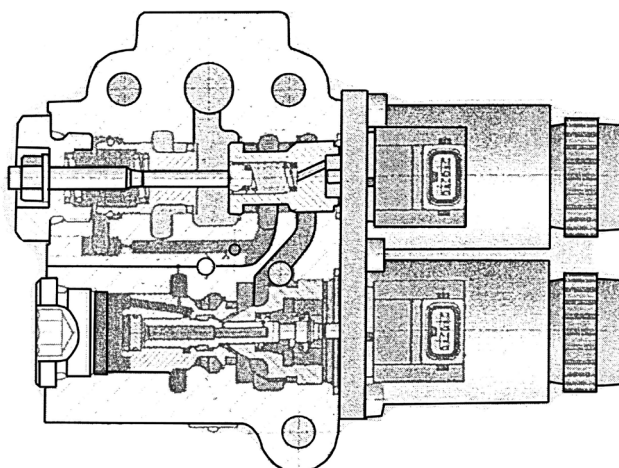
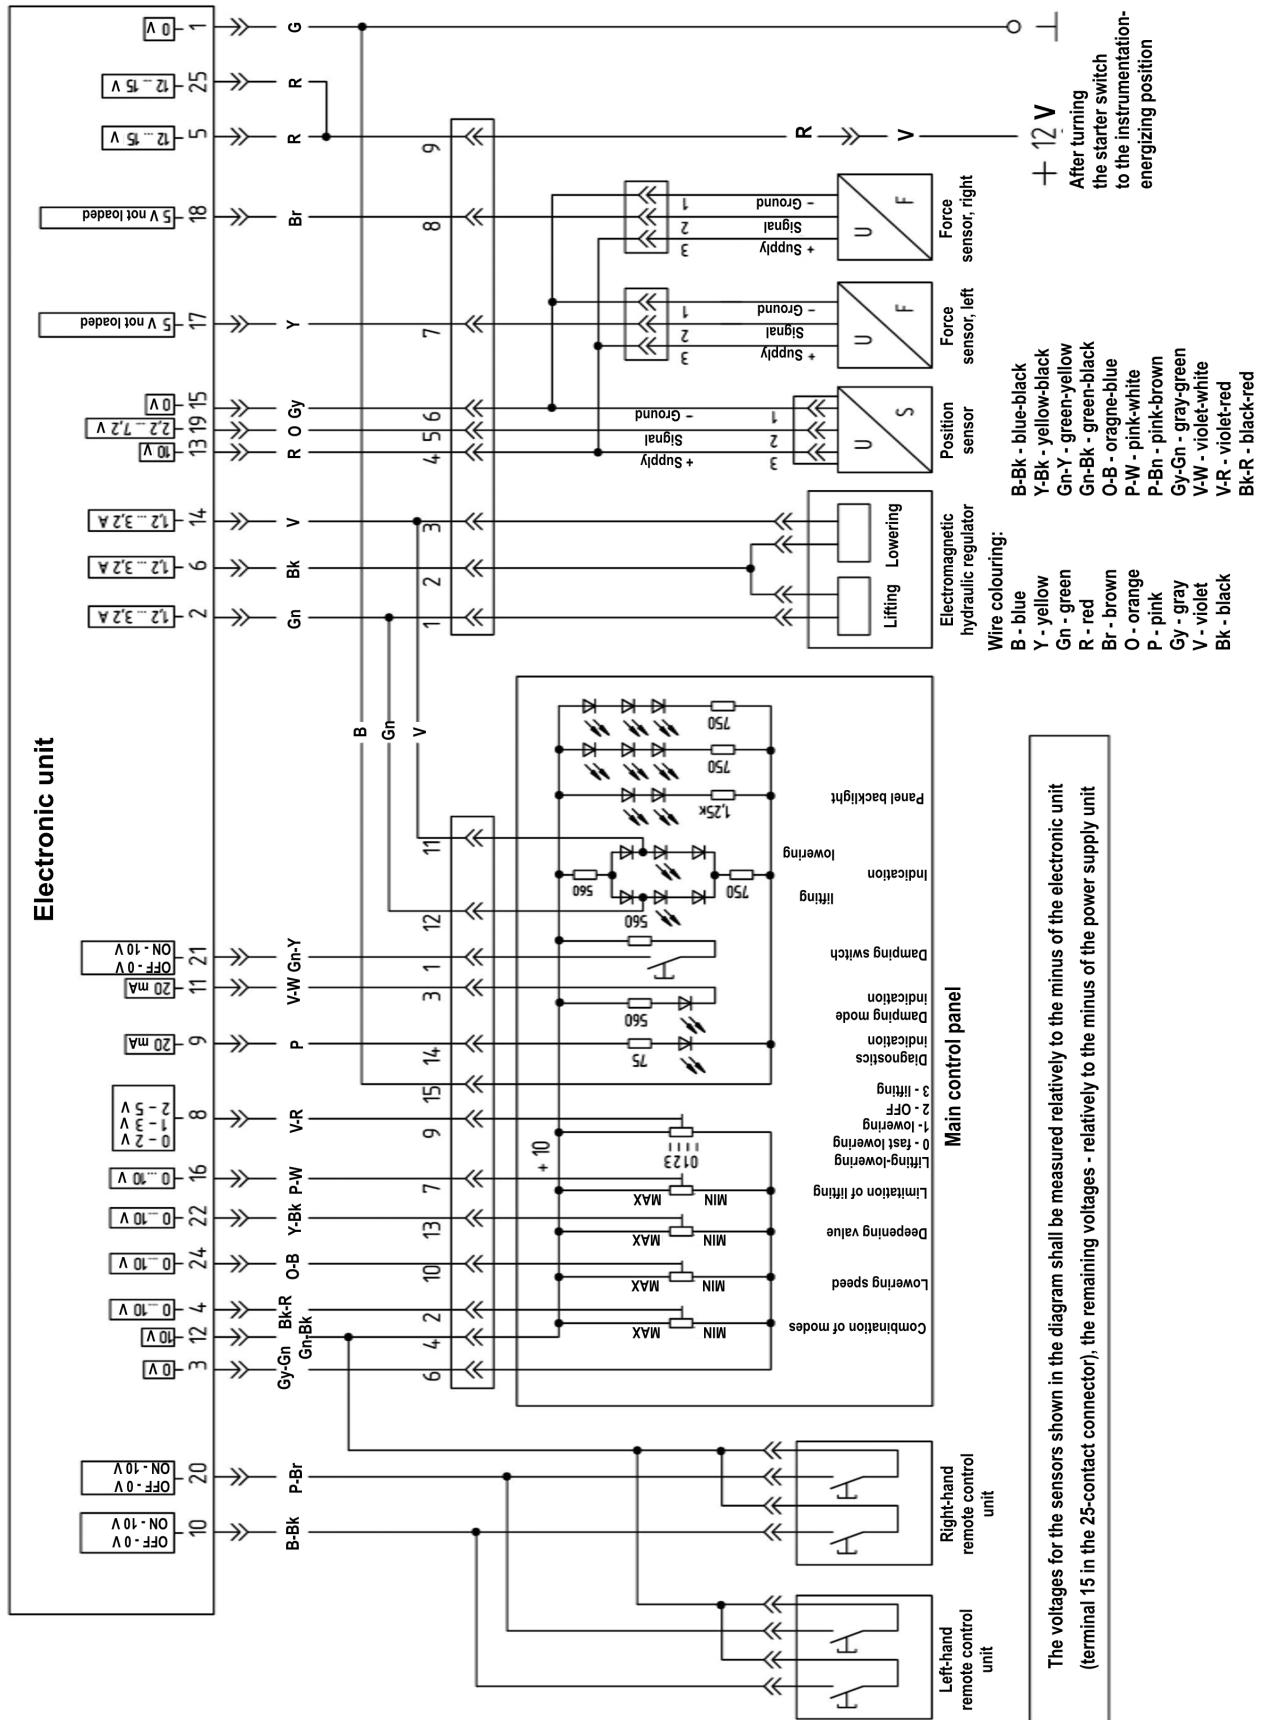

Fig. E-34. EHR5-OC electro-hydraulic regulator
Fig. E-37. Electric connection diagram of the RHL control system
The hydraulic power lift drive (Fig. E-34) consists of a bracket (4) with the draft (7) and position (8) handles mounted on it. The latter are connected to the draft (11) and position (10) levers, respectively, by means of two-way ropes (5). The control levers are locked by spring-loaded friction disks.
The construction arrangement of the EHR5-OC electro-hydraulic regulator is shown in Fig. E-34.
The EHR5-OC electro-hydraulic regulator (Fig. E-34) is controlled by two proportional magnets with the use of the electronic RHL control system (see Fig. E-37)
The connection diagram of the RHL control system is shown in Fig. E-37.
tween the wires or locking of one of the remote control buttons. In this case, the hitch linkage begins move up- or downwards immediately after starting the engine (Fig. E-37).	turn until the defect is eliminated. When disconnecting the buttons, the engine shall be stopped. If the defect does not disappear when the buttons are disconnected, it is necessary to disconnect the connector from the electronic unit and check the terminals (10) and (12), (20) and (12) for short circuit by means of a tester.
is faulty. Cable breakage or short circuit in the sensor (Fig. E-37).	and check the cable for mechanical damage. Overload of the force sensor is also possible.